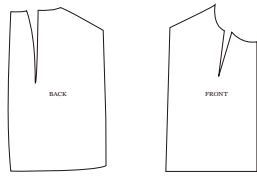

Fig.08
- After marking all the point, then we need to tracing on the paper and there's the pattern we can get.(like Fig.08 shows)